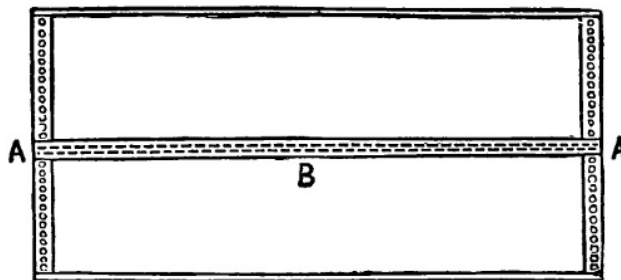

Fig. 1.
Now with respect to making a hammock, the first thing necessary is a piece of strong canvas, about 5 ft 8 in. in length and 3 ft. wide. In the Navy hammocks are made in two pieces (Fig. 1), which are stitched together down the centre (B). The sides and ends must be hemmed, and then the eyelet-holes for the clews to be fastened to must be made (A A). The eyelet-holes are twenty-four in number, at equal distances along the edge, at each end of the hammock. They are usually made in the following manner, although it is not absolutely necessary to be so particular.